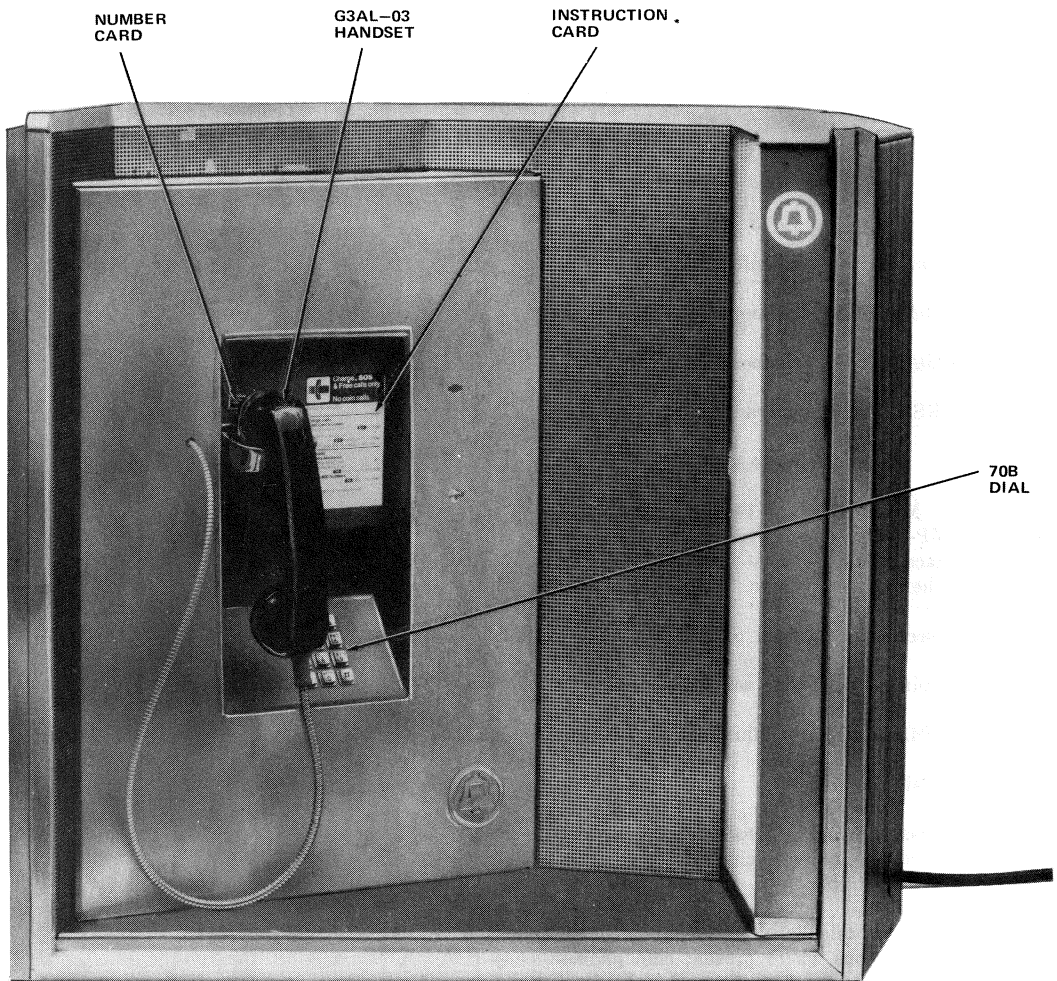

Fig. 2—20A Coinless Telephone Set
- (b) The 20A coinless telephone set (Fig. 2)
B. 20A Coinless Telephone Set (Fig. 2 and 5)
2.15 The instruction card (Fig. 2 and 7) must be fabricated and procured locally.